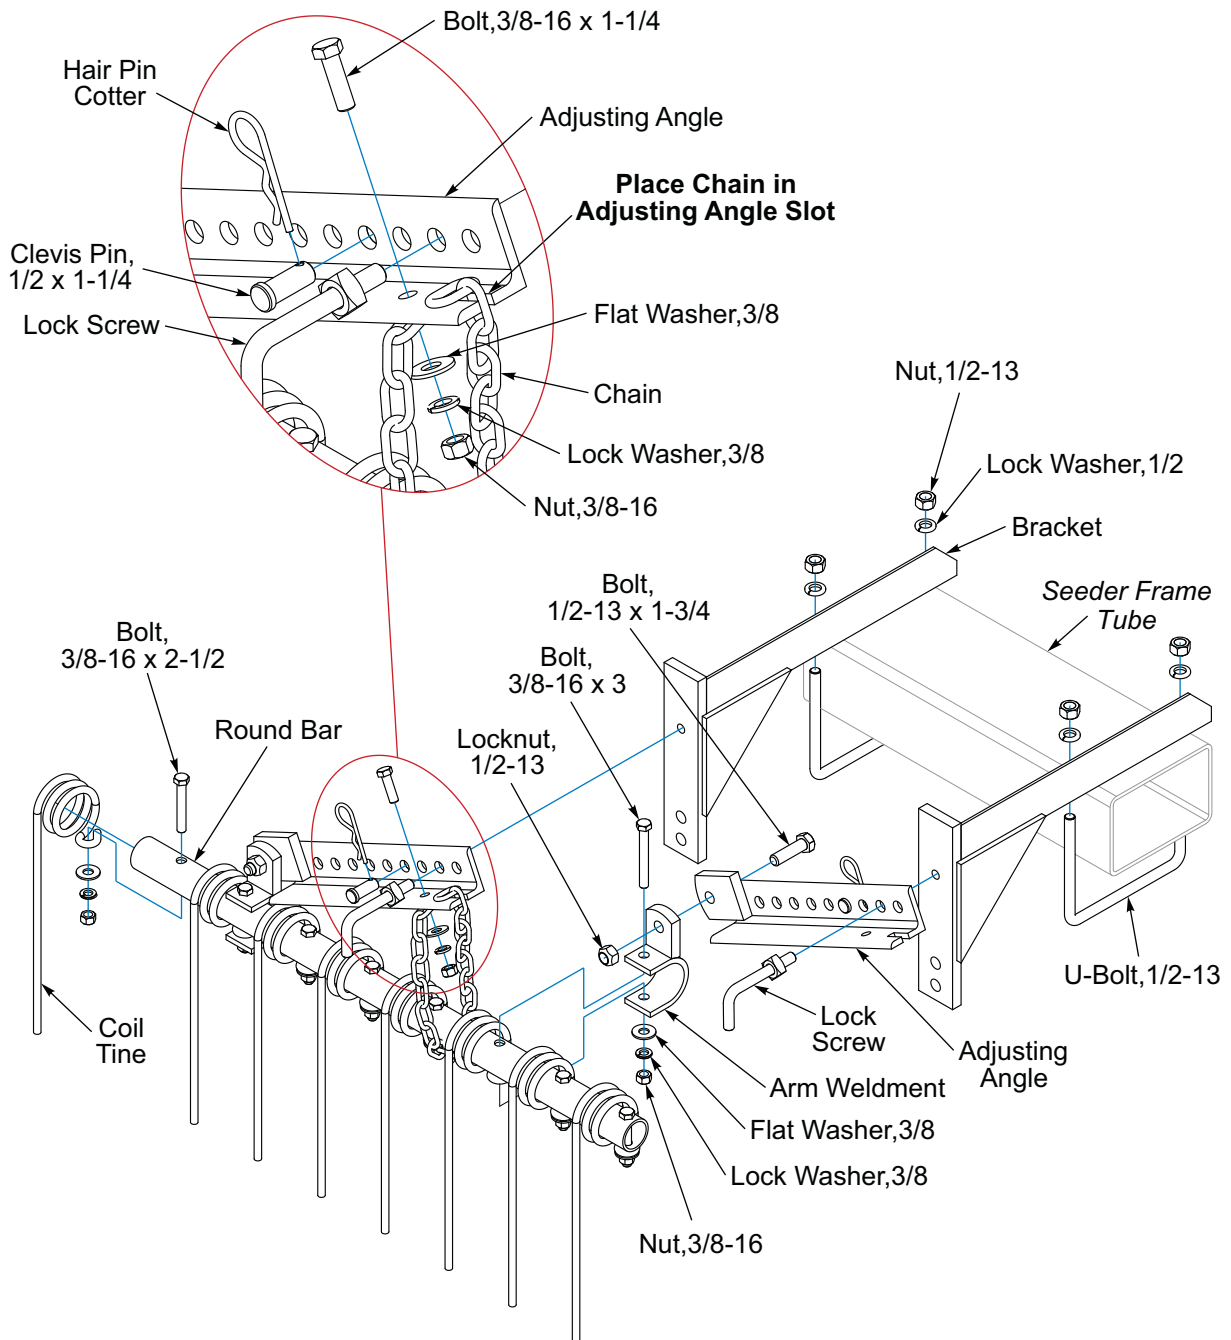

Figure 2-69: Coil Tine
1. Slide the Coil Tines onto the Round Bar so that the straight leg is frontward. **See Figure 2-69.**